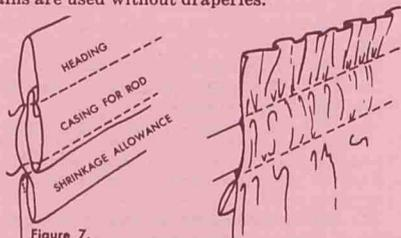

Figure 7.
(3) Cut the number of widths for each panel. Curtains hang better if the selvages are trimmed.
(4) Stitch all seams in the same direction. French seams are desirable for sheer fabrics. Loosely woven fabrics should have finished seams if a plain seam is used.
(5) Turn under side hem one to two inches. Baste, press, and stitch by hand.
(6) Turn under amount for heading and casing. Shrinkage allowance is machine stitched under casing. (Figure 7).
(7) Pin bottom hems. Press, and hand stitch.